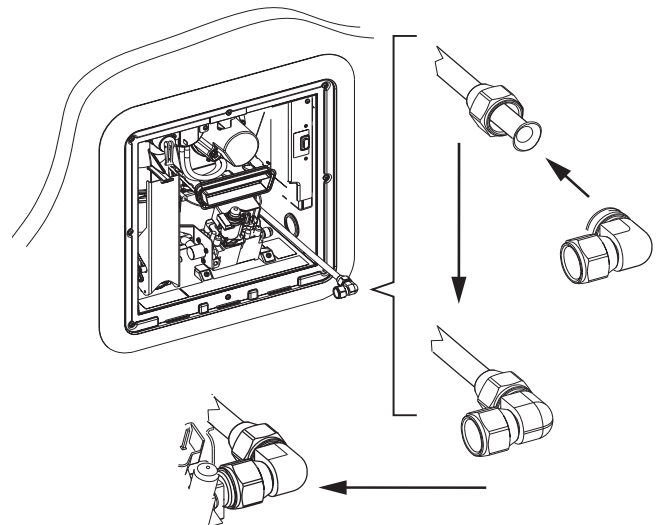

Fig. 29
- Mount the elbow union (45° SAE flare style) on the gas pipe in the direction shown (see Fig. 29).